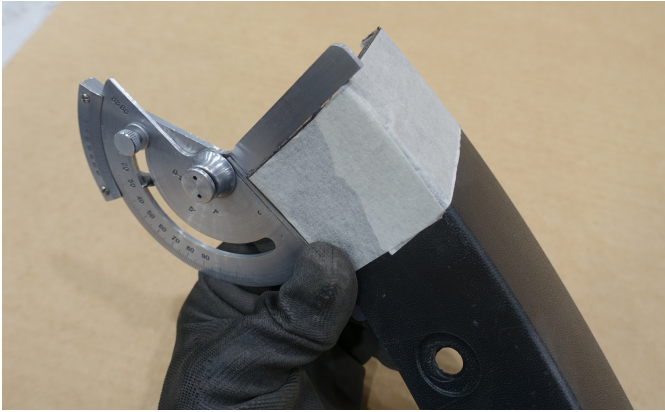

Fig.7
7. Before cutting, make sure that marked cutting line is perpendicular to edge of fender. After that cut plastic fenders using a jig-saw. (fig.7).